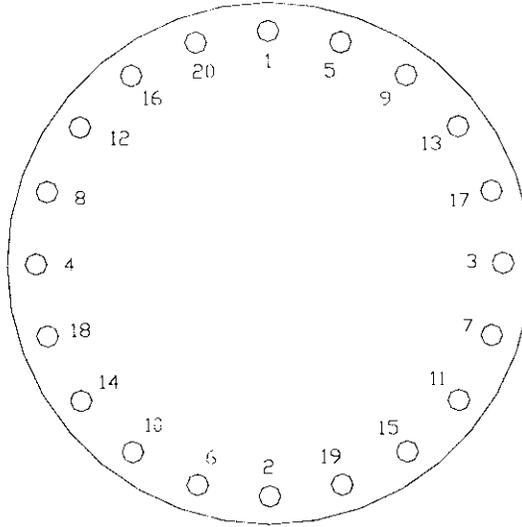

**Figure 1.23** The installed Teflon centering shim blocks.
- 1.23** Center the lower end of the lead in the chimney using the centering shim blocks. The Teflon inner centering shim blocks are labeled with an 'I' and go between the power lead and the lower insulator. The Teflon outer centering shim blocks are labeled with an 'O' and go between the lower insulator and the chimney. The installed Teflon centering shim blocks are shown in Figure 1.23.